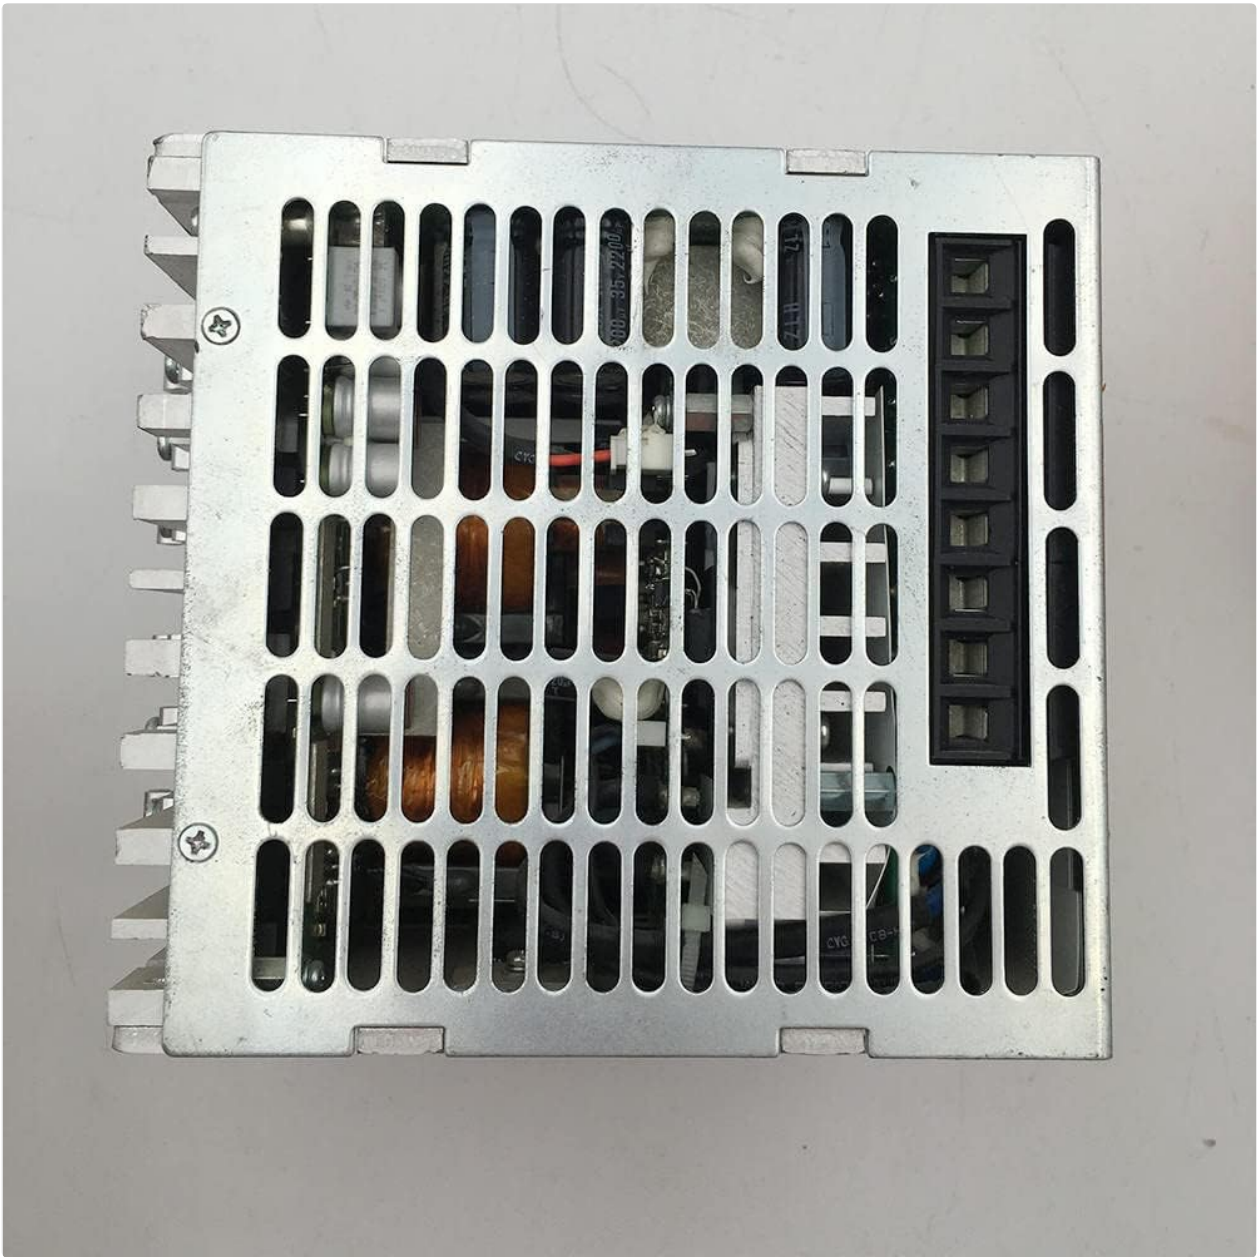

Figure 3.3: Side view of the power supply, highlighting the terminal block for electrical connections and ventilation grilles.
2. **Input Wiring:** Connect the AC input power to the designated input terminals on the power supply (refer to Figure 3.3). Ensure correct polarity (Live, Neutral, Ground). The input voltage range is 100-240V AC.
4. **Grounding:** Connect the protective earth (PE) terminal to a reliable ground connection.